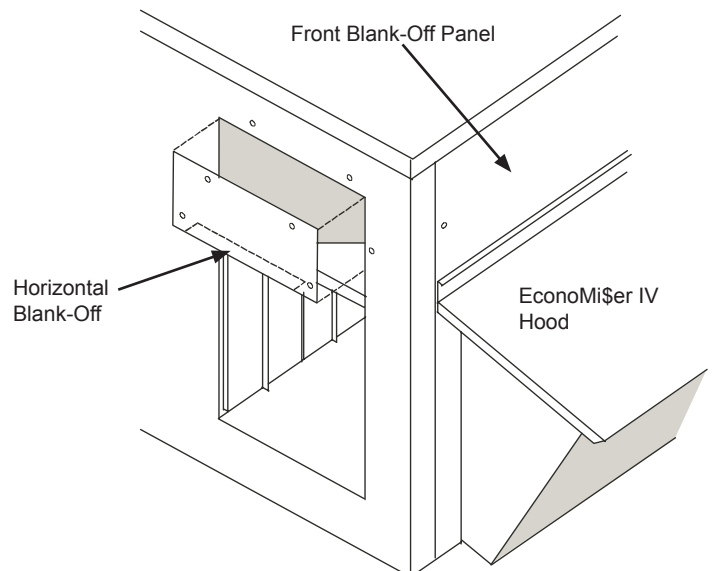

Fig. 13 - Horizontal Return Opening Blank-Off (Not on All Units)
18. On some units the return damper does not reach to the top of the horizontal return opening in the unit. In this case a horizontal blank-off must be installed. Install the horizontal blank-off at the top of the horizontal return opening. (See Fig. 13.) Screw in place thru pre-punched holes.